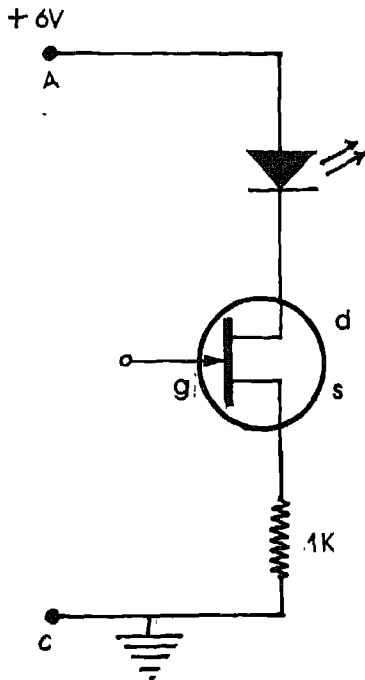

Fig. 15.2
1. Connect the circuit as shown in Fig. 15.2.